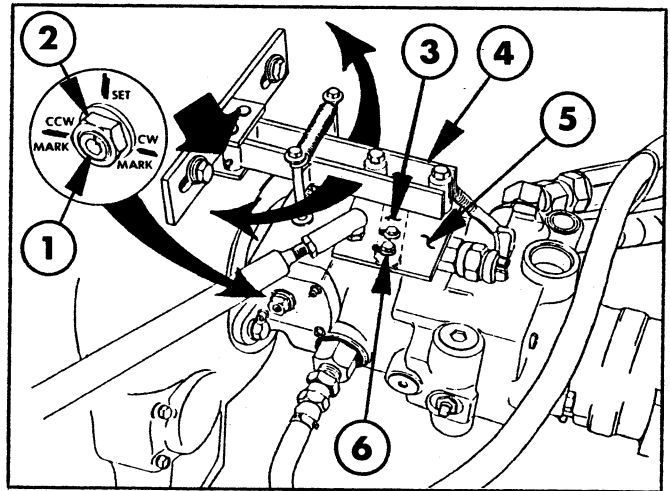

FIG. 11
- FRONT AXLE SPINDLES (2)
- LINKAGE CONTROL ARMS (FIG. 11, PAGE 21)
It is very important that the foot pedal operate freely and return positively to the NEUTRAL or "CENTERED" position. Periodic maintenance of the foot pedal requires applying grease to the grease fittings on the linkage control arms as shown in FIG. 11.
5. Pull both control arms away from the control plate bearings (SEE FIG. 11). When the control plate is adjusted correctly, the control plate WILL NOT rotate when the control arms are pulled away.
8. To adjust the control plate, loosen the 2 control plate mount bolts, so it allows the control plate to center itself and allows the servo control arm to move independently as shown in FIG. 11.
10. Loosen the jam nut on the servo adjusting screw. (SEE FIG. 11.) Release the brake pedal, start the engine, and turn the servo adjusting screw CCW (Counter Clockwise) until the rear wheels begin to move. Make a chalk mark on the servo housing next to the servo screw mark to show this location. (SEE FIG. 11.) Rotate the servo adjusting screw CW (Clockwise) until the rear wheels begin to rotate in the opposite direction. Make a chalk mark on the servo housing next to the servo screw mark to show this location. Turn the servo adjusting screw to midway between these two marks and retighten the jam nut. After proper adjustment, proceed to STEP 11.